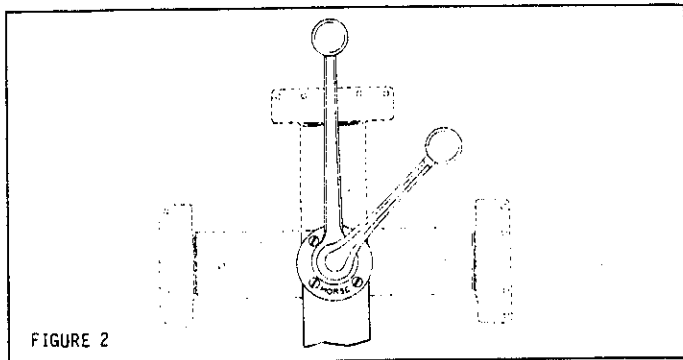

FIGURE 2
- c. The hanger plate may be installed in any of the four positions shown in Figure 2 to provide the most direct cable path.